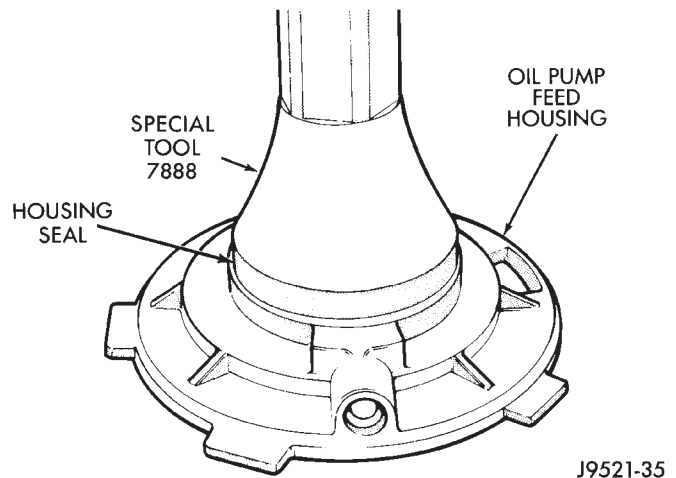

Fig. 64 Oil Pump Seal Installation
(1) Install new seal in oil pump feed housing with Special Tool 7888 (Fig 64).